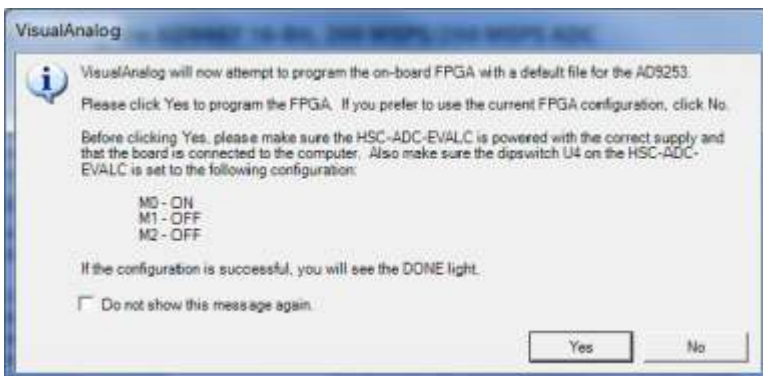

Figure 4. VisualAnalog Default Configuration Message
- After the template is selected, a message might appear asking if the default configuration can be used to program the FPGA (see Figure 4). If this message appears, click **Yes**, and the window will close.